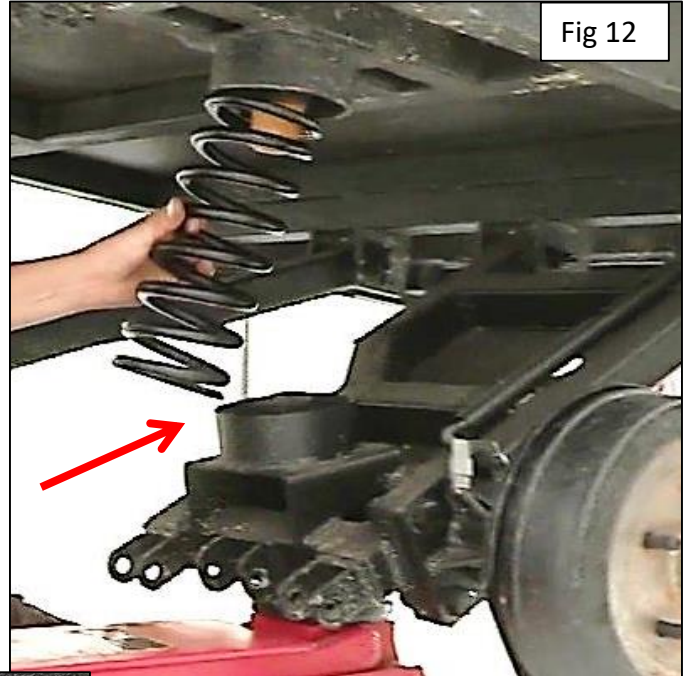

Fig 12
17. Install coil spring. Use jack to compress suspension once the spring is installed into the cup, as you raise the suspension be sure to line up the spring with the cups. Fig 12. Make sure coil is seated inside the rubber isolator evenly.